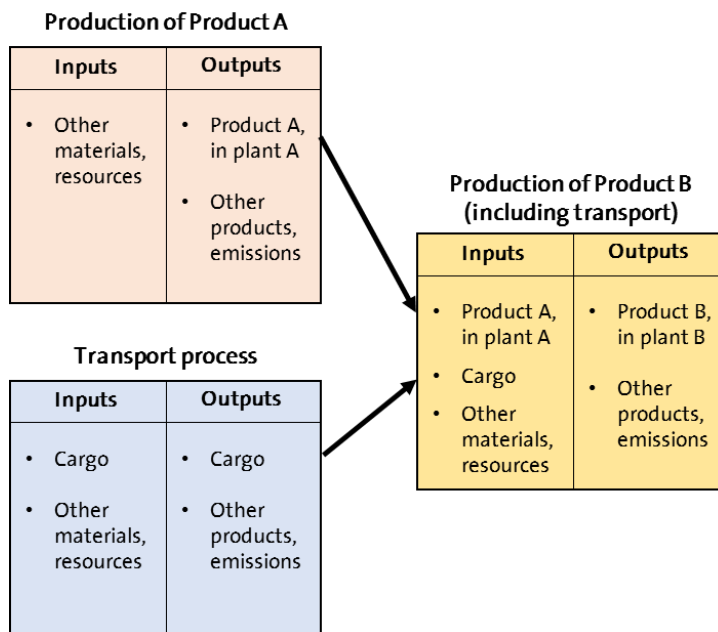

Figure 11. Option 3 suggested for transport modelling using ELCD database in openLCA.
- Option 3:** Include the transport in the production/use/disposal process dataset. This approach will be similar to the transport modelling followed in other databases such as ecoinvent. The cargo flow added as input in the correspondent process with amount equal to the product to be transported will have as provider the last transport process of the chain you created. Consequently, the product in the e.g. manufacturing process will not represent the “product, at plant” but “product, at destination”. This will be connected to the next process of the LCA directly. The cargo input flow of the first transport process in the chain you created will remain unconnected (Figure 11). By default, it is connected to a “Dummy” process (i.e. no impact associated with it; it will contain only the cargo flow as output), in order to avoid the cargo input flow to be listed in the inventory results. In addition, this prevents the existence of loops within the same transport process, leading to errors in the calculation (i.e. the provider for the cargo input is the cargo output of the same process).